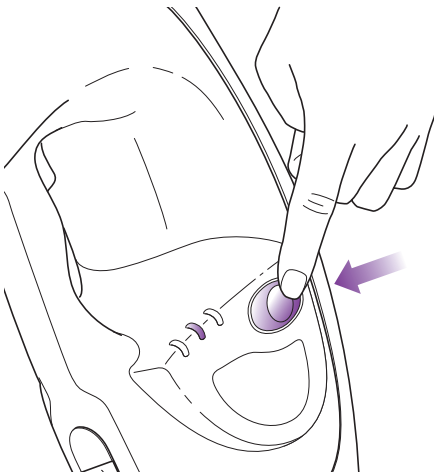

fig. 9
- 3** Press the **ON/STANDBY** button once for **DUST** setting (**DUST** lighted setting indicator will illuminate). **DUST** setting is a light steam for a quick dusting and best dry time. (fig. 9)